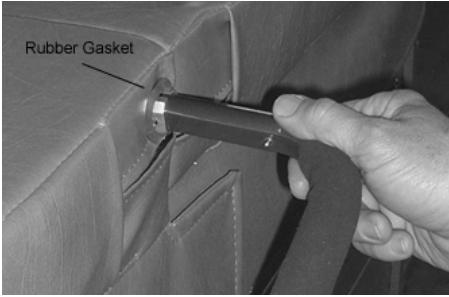

Figure 4
5. Locate **Keyway Coupler** inside cover at the fold and prepare for connection by pressing the vinyl to the coupler opening. Carefully cut an "X" in the center of the coupler. Expose the coupler and install **Rubber Gasket** onto the coupler. Press gasket firmly against the spa cover vinyl. (Figure 4)
6. Match the flat side of the **Hand Grip Bar** to the **Keyway Coupler** and slide bar into coupler. (Figure 4) Depress button spring to snap into hole provided in coupler.